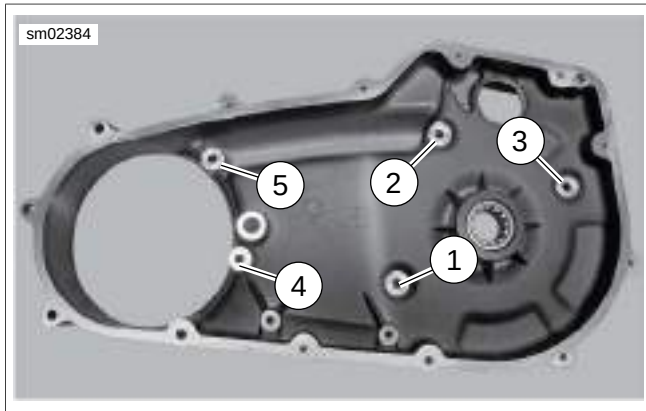

Figure 5-29. Sealing Fastener Torque Sequence
5. See Figure 5-29. Tighten fasteners in sequence shown to 25-27 ft-lbs (33.9-36.6 Nm).